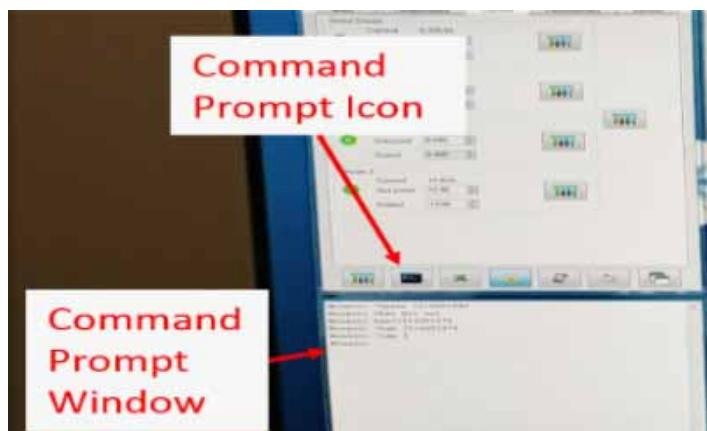

Figure 4.4-12. Command Prompt Window
27. Open the command prompt window from the GUI to calibrate the diode. See Figure 4.4-12 below.